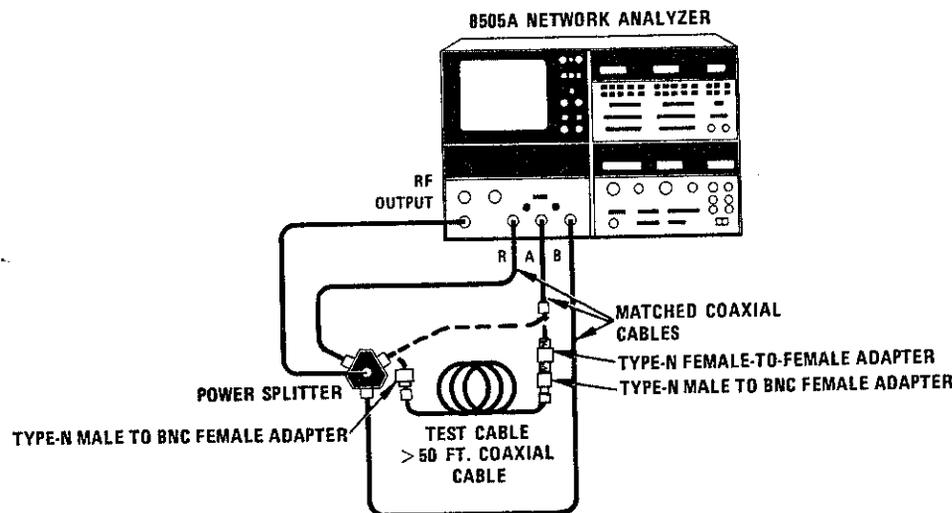

Figure A4-18. Test Setup to Measure Group Delay of Test Cable
(1) Connect the "Test Cable" in A channel between the matched cable and the power splitter as shown in Figure A4-18.
(2) Set 8505A controls as follows:
- b. Connect equipment as shown in Figure A4-18 with both matched cables connected to power splitter and "test cable" with adapters not connected in circuit.